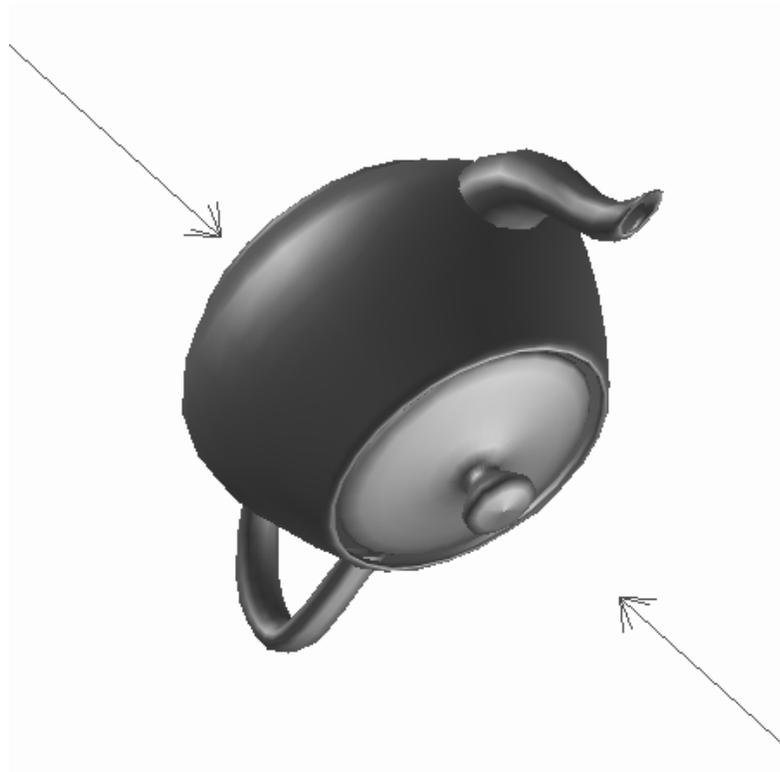

Figure 5-27 Bi-Directional Lights
- **Bi-Directional:** A pair of directional light sources that point in exactly opposite directions. See Figure 5-27. This type of light can be used to "correct" the lighting of an object whose faces have been carelessly defined, so that the normals of some faces point outward and the normals of other faces point inward.